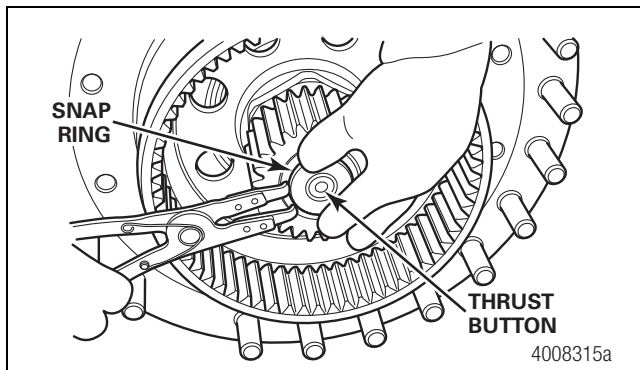

Figure 5.7
1. Remove the sun gear retaining snap ring and retaining washer (if equipped) from the end of the axle shaft. Figure 5.7.